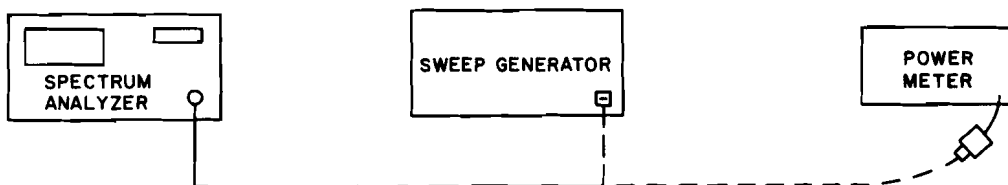

Figure 4-7. Frequency Response Test Set-Up
1. Connect the test equipment as shown in Figure 4-7.